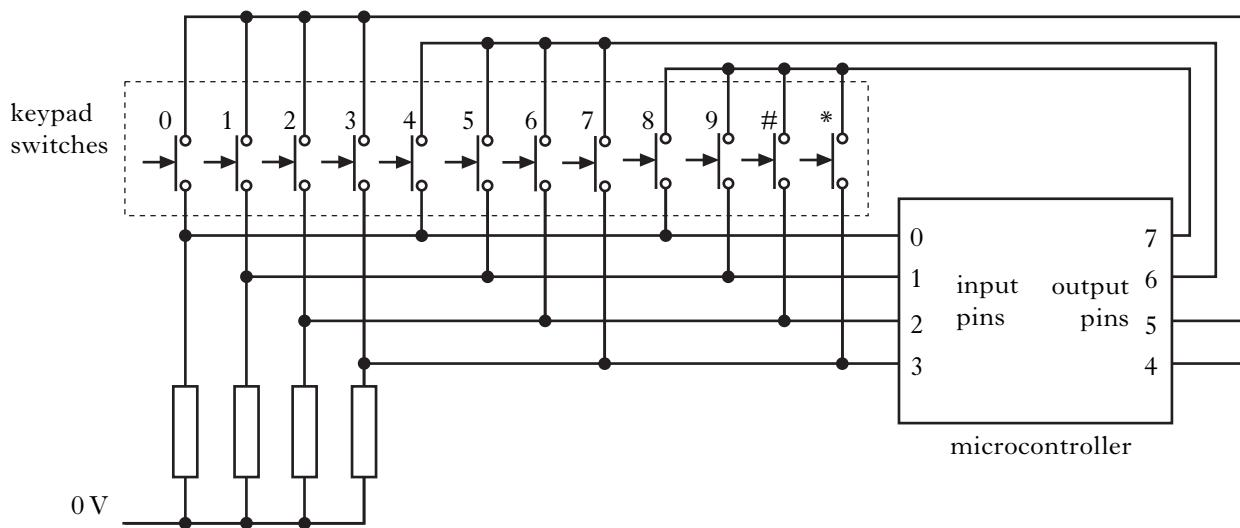

Figure Q11(c)
The logic system is to be replaced by a microcontroller-based system to process the signals from the keypad. Figure Q11(c) shows the connections to the microcontroller, enabling the twelve keys of the keypad to be monitored by a microcontroller with only eight I/O pins.
- (d) Referring to Figure Q11(c):